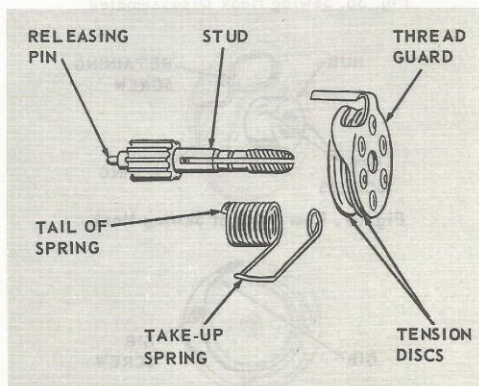

Fig. 33. Take-up Spring Unit
4. Align coils of spring with hole in discs and place this assembly on stud as shown in Fig. 33. Tail of thread guard enters hole provided in machine head.
**Note:** Tail of spring, Fig. 33, enters one of the grooves in rear of stud. (See instructions for setting take-up spring, page 11.)